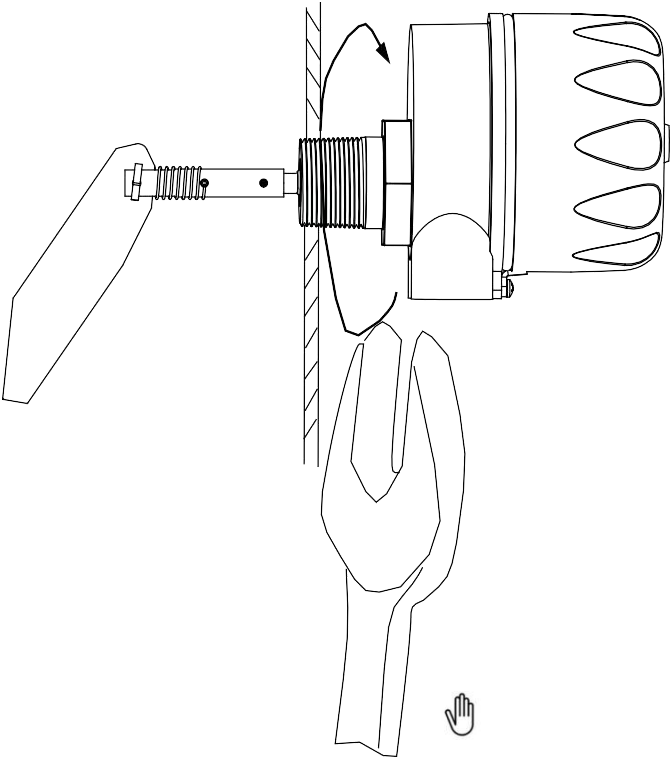

Figure 3: Attaching to Process Connection
3. Screw the Model BL-50 into the coupling as shown in Figure 3.
- e. Screw the Model BL-50 into the coupling as shown in Figure 3.